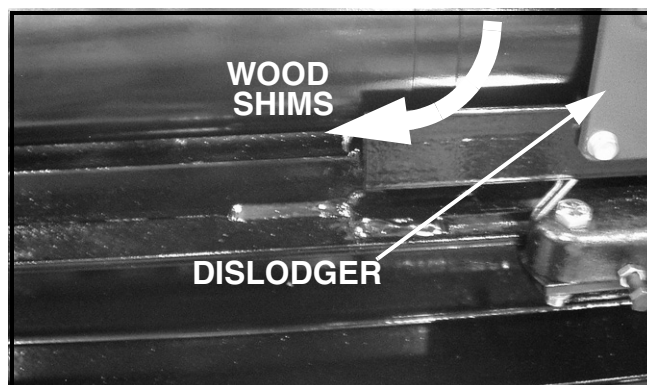

FIGURE 2
7. Place a 1/4" - 3/8" wood shim under the forward end of the cylinder to support the cylinder when the cross bolt is removed from the splitting wedge in Step 9. See Figure 2.